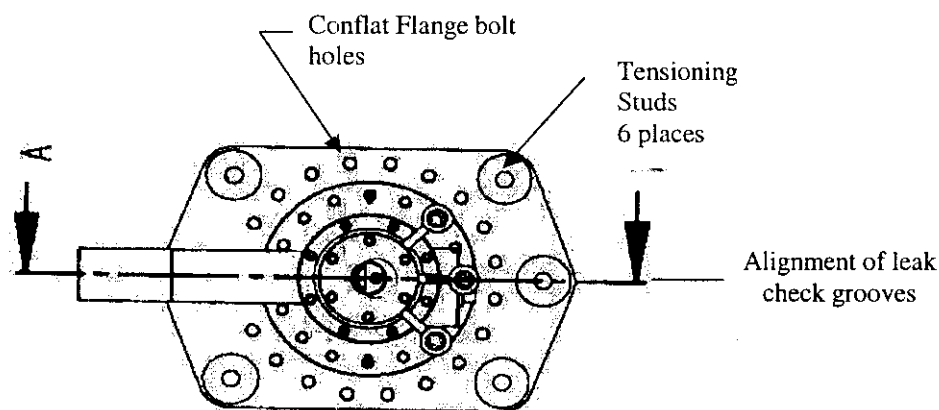

Figure 1.15 The 20-hole Conflat bolt pattern is bisected by center tensioning studs.
- 1.15 Align the top plate rotatable Conflat flange to the orientation shown on Figure 1.15, where the leak check grooves on the flange align with the middle tensioning studs.